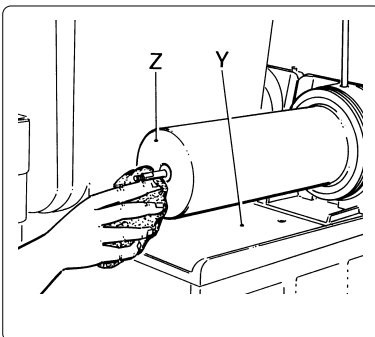

Fig. 15
- e) Thoroughly wash each single part, and properly clean the surface (Y) and the evaporator (Z) (see fig. 15).